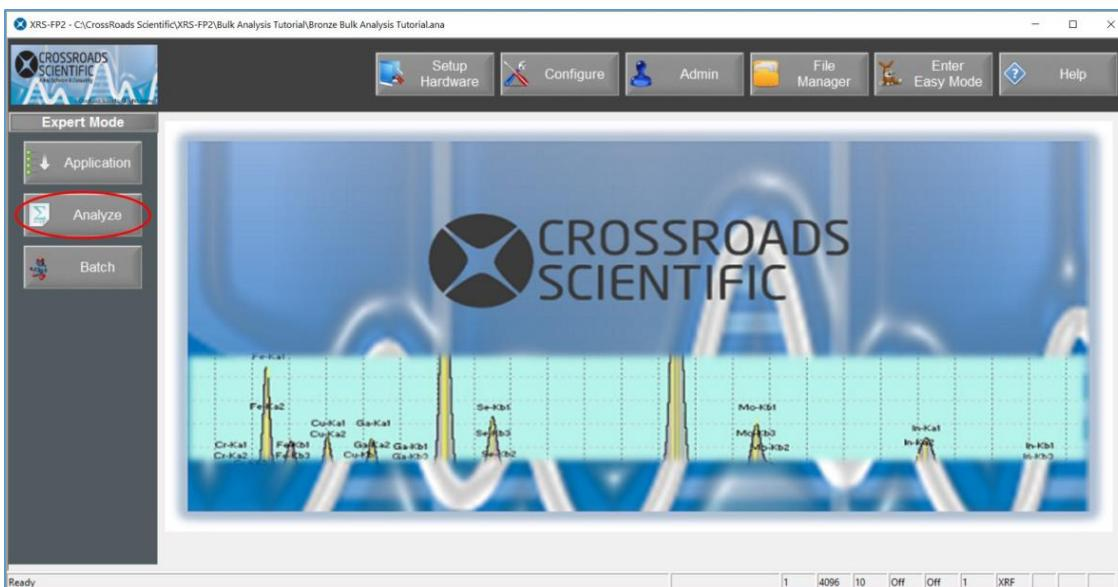

Figure 16. XRS-FP2 Analyze Workflow. From the XRS-FP2 home screen select the analyze button.
- Now, click on the **Home** button and then select the **Analyze** button (Fig. 16, red circle).